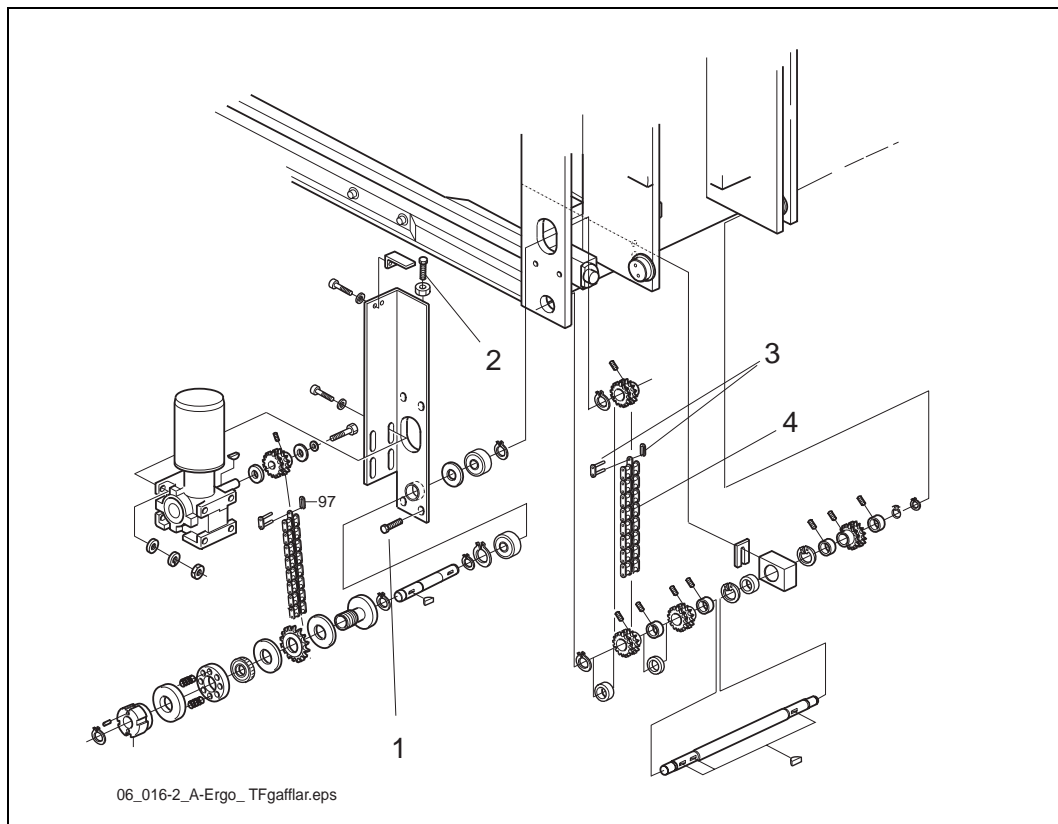

Figure 6.30 Chain tensioning bolt
5. Release the bolts, pos. 1, just enough to be able to adjust the chain tensioning bolt, pos. 2. Screw the bolt to the left so that the chain slackens and the chain lock, pos. 3 and 4, can be removed, see figure 6.30.